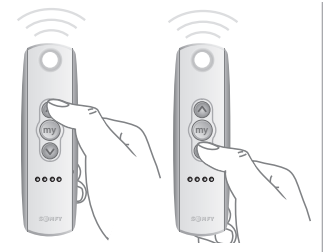

Fig. 3
b. Using the **UP** (▲) or **DOWN** (▼) Buttons to open or close the window covering. If a specific position is necessary, briefly press the “**MY**” (stop) (my) Button to stop the window covering once position is reached. (fig. 3)